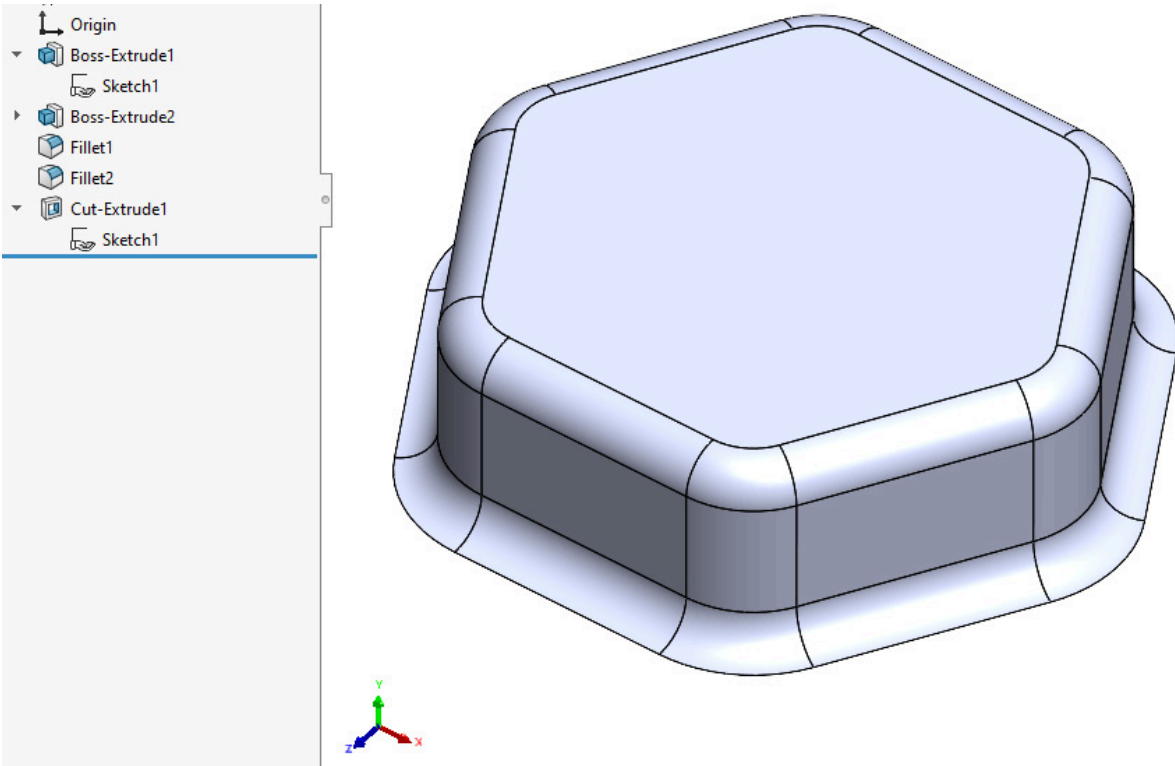

Figure 10.16: Cutting away the initial base, using the first sketch and a Cut Extrude
6. Expand the first **Boss-Extrude** feature and select the sketch underneath. Then, use this sketch to create an Extruded Cut that is the same depth as the first **Boss-Extrude** feature (**10mm**), completely cutting away the first **Boss-Extrude** feature, as illustrated in *Figure 10.16*.